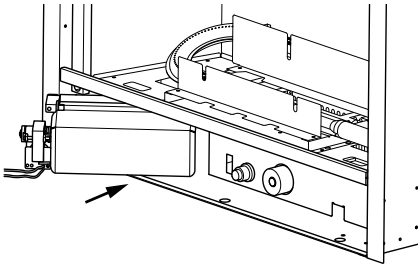

Figure 7 - Inserting Blower into Fireplace
2. Insert blower into the bottom space of burner pan. Pay attention not to touch wires inside (see Figure 7).